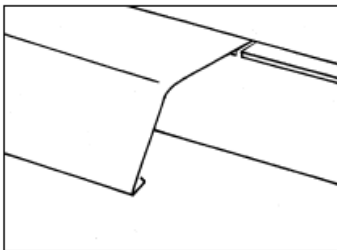

Figure 7
- 4) Angle cut the inside or starter side leg of the lineal slightly (about 1/4"). Trim foam back accordingly. (Figure 7)